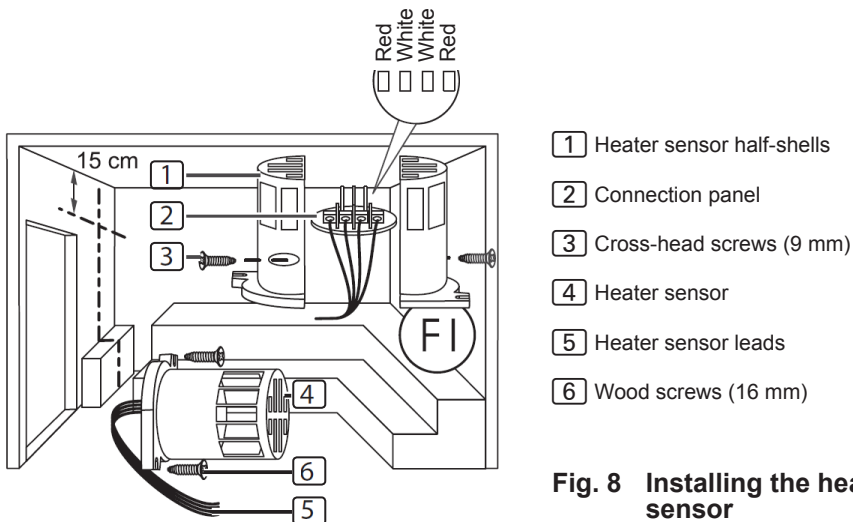

Fig. 8 Installing the heater sensor
To install the heater sensor, perform the following steps (see **Fig. 8**):
3. Connect the four connections for the heater sensor lead **5** in accordance with **Fig. 8**.
4. Place the connection panel **2** crossways (as shown in **Fig. 8**) in the heater sensor half-shells.